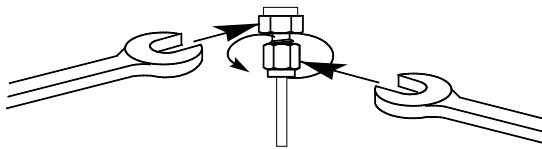

Figure 13 Final tightening
- 8** For 1/8-inch Swagelok fittings, use a pair of 7/16-inch wrenches to tighten the fitting 3/4 of a turn (Figure 13). For 1/4-inch fittings, use a pair of 9/16-inch wrenches to tighten them 1-1/4 turn (Figure 13).